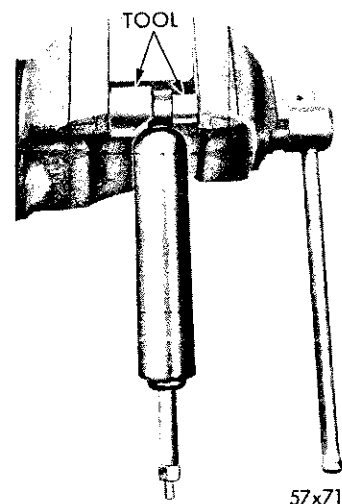

**Fig. 11—Front Shock Absorber (Typical Installation)**
- (1) Refer to Figure 11 and disconnect the upper